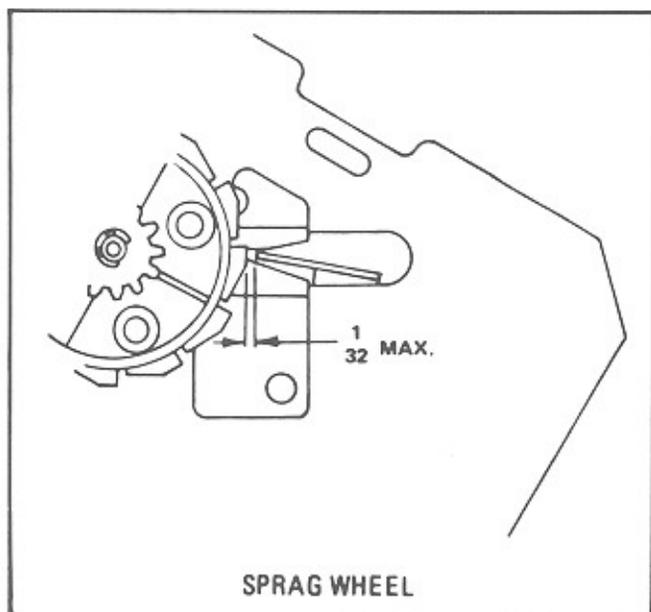

Figure 3-8. Sprag Wheel
2. Rotate the record magazine and note the clearance between the sprag lever and the sprag wheel located on the backside of the sprag plate assembly. The sprag lever must not touch the sprag wheel and the clearance must not be greater than $1/32$ inch (See Figure 3-8.). It will be necessary to remove the sprag assembly if corrections are required.